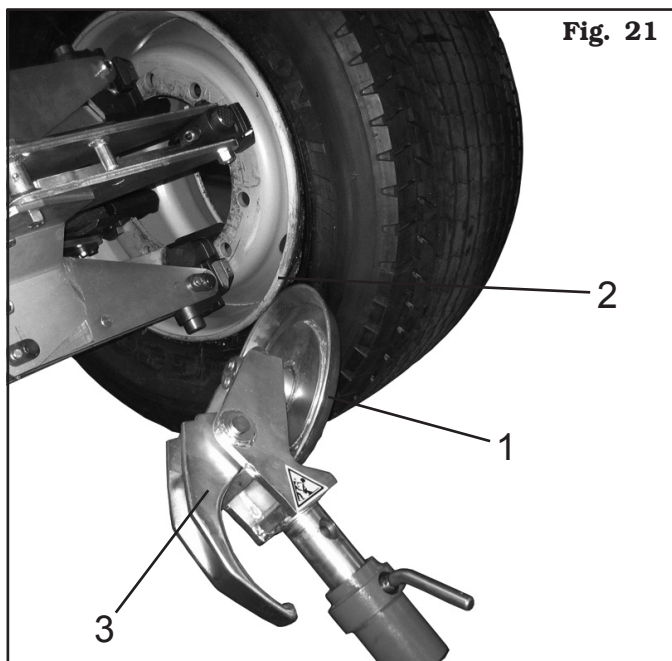

Fig. 21
- H.** Carry out the tools holder head 180° rotation according to the descriptions of the relevant paragraph, so that the beading disc (**Fig. 21 ref. 1**) is placed against the rim edge (**Fig. 21 ref. 2**).